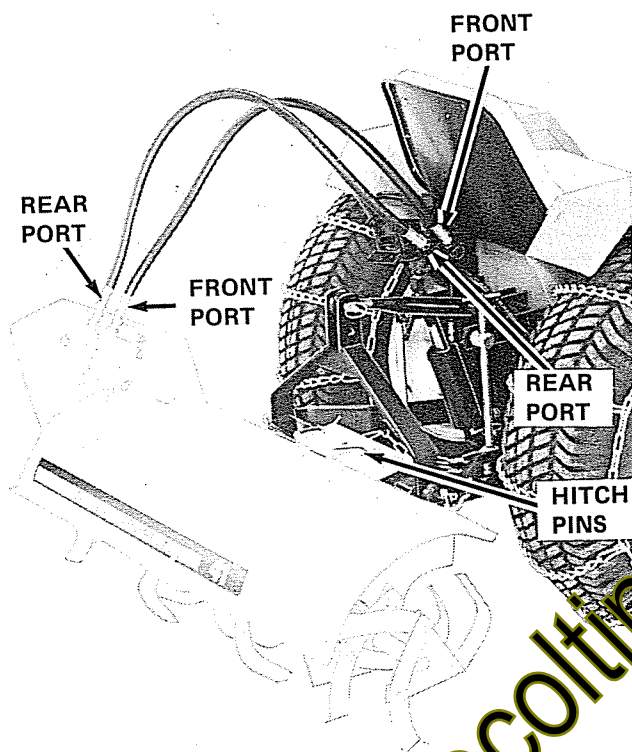

FIGURE 9 Hose Connections
3. See Figure 9. Install the hoses from: